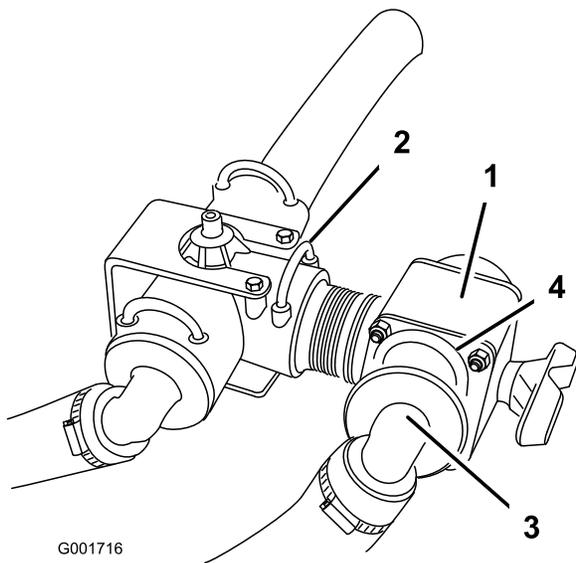

Figure 9
4. Install the new control valve into the rear facing open port on the supply tee and secure it with a new retaining fork (Figure 9).
5. Connect the boom supply hose to the open port on the control valve and secure it with the retainer removed previously (Figure 9).